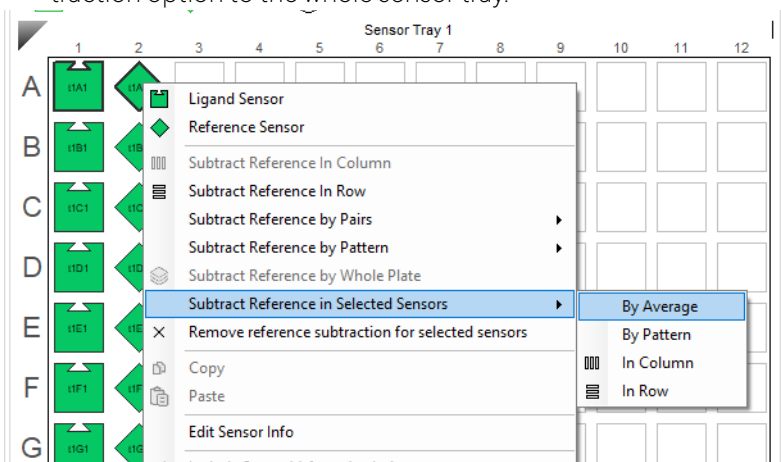

Figure 4-19: Subtracting Specific Wells
3. **To subtract specific ligand and reference sensors** - select the sensors, right-click anywhere on the biosensor tray and select **Subtract Reference in Selected Sensors by Average** (Figure 4-19). Use this option when there is no pattern or you want to apply different types of referencing on the sensor tray rather than applying one subtraction option to the whole sensor tray.